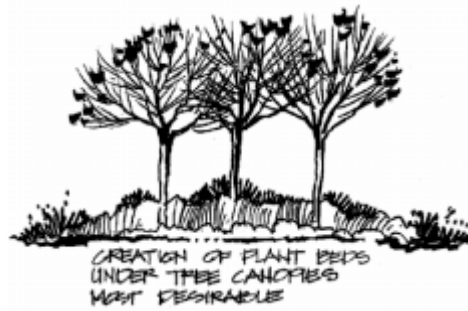

FIGURE 19-23
4.2.4 55.4 Removal of understory is not practical or desirable because of the probability of tree root damage. Creating planting beds under tree group canopies is beneficial because it maintains a more natural look. See Figure 19-23.